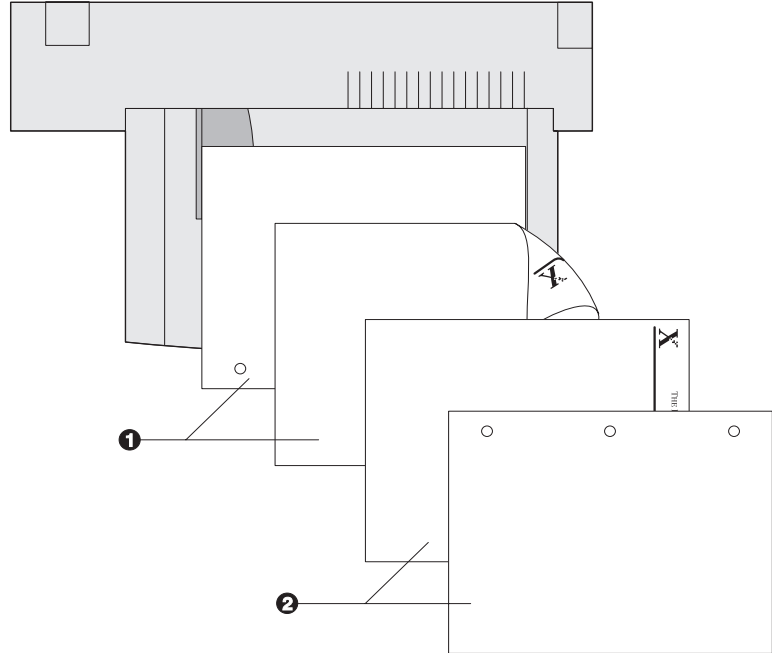

Figure 4.5 50 Sheet Bypass Feeder paper orientation (short edge feed)
**2** Place the paper along the right side of the Bypass Feeder (refer to Figure 4.4 on page 4-16 and Figure 4.5 on page 4-17 for paper orientation, and Figure 4.6 on page 4-18 for envelope orientation).